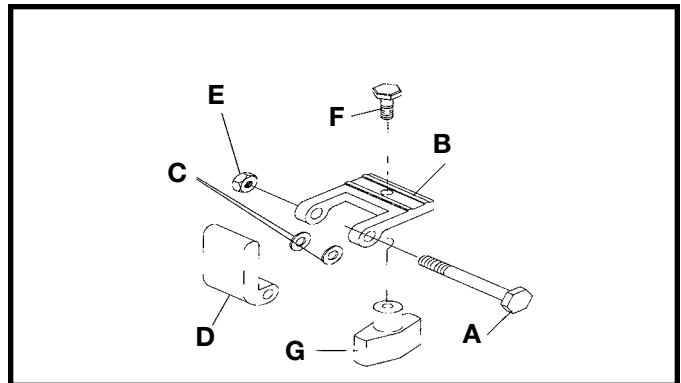

Fig. 56
1. Insert 1/4-20x2" bolt (A) through hole into one side of bracket (B) Fig. 56.
2. Place one washer (C), on bolt (A), and slide bolt through flip stop (D) Fig. 56.
3. Place the other washer (C), on bolt (A), and slide bolt (A) through other side of bracket (B) Fig. 56.
4. Screw the lock nut (E) onto bolt (A) and tighten until the flip stop will stay up.
5. Insert bolt (F) through bracket (B) as shown and screw knob (G) onto bolt (F) approximately 3 complete turns. Fig. 56.